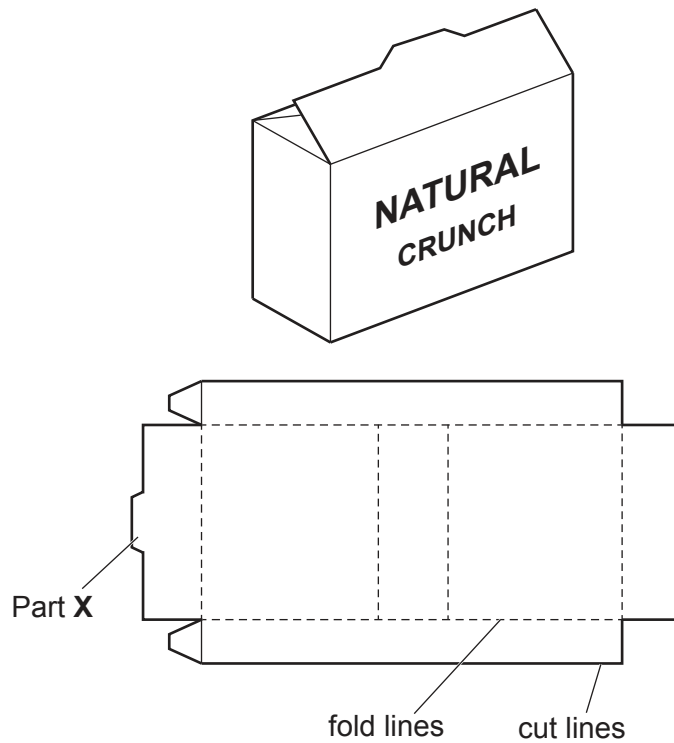

Fig. 5.1
- 5 Fig. 5.1 gives details about a box that is to be used to package and store health food bars.